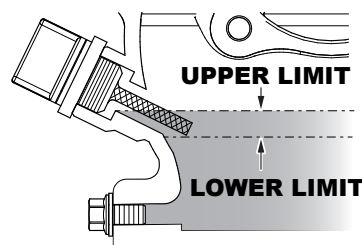

Figure 10. Engine Oil Level
3. Insert and remove the dipstick without screwing it into the filler neck. Check the oil level shown on the dipstick (Figure 10).